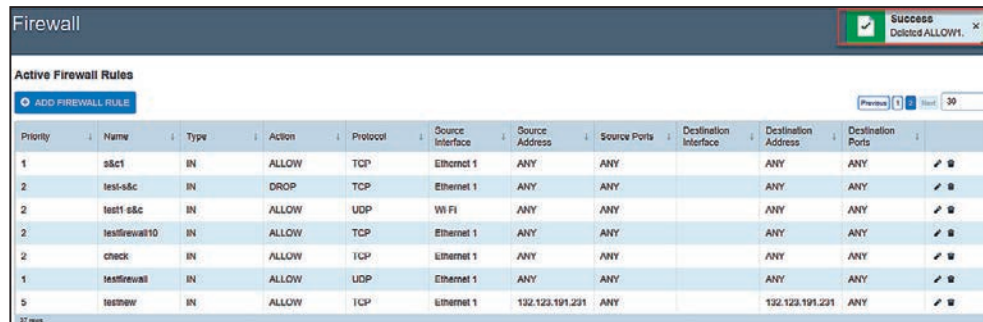

Figure 65. The successful deletion notification on the *Active Firewall Rules* screen.
- STEP 3.** After clicking on the **Delete** button, the rule will be deleted and a notification will be seen in the upper right corner. See Figure 65